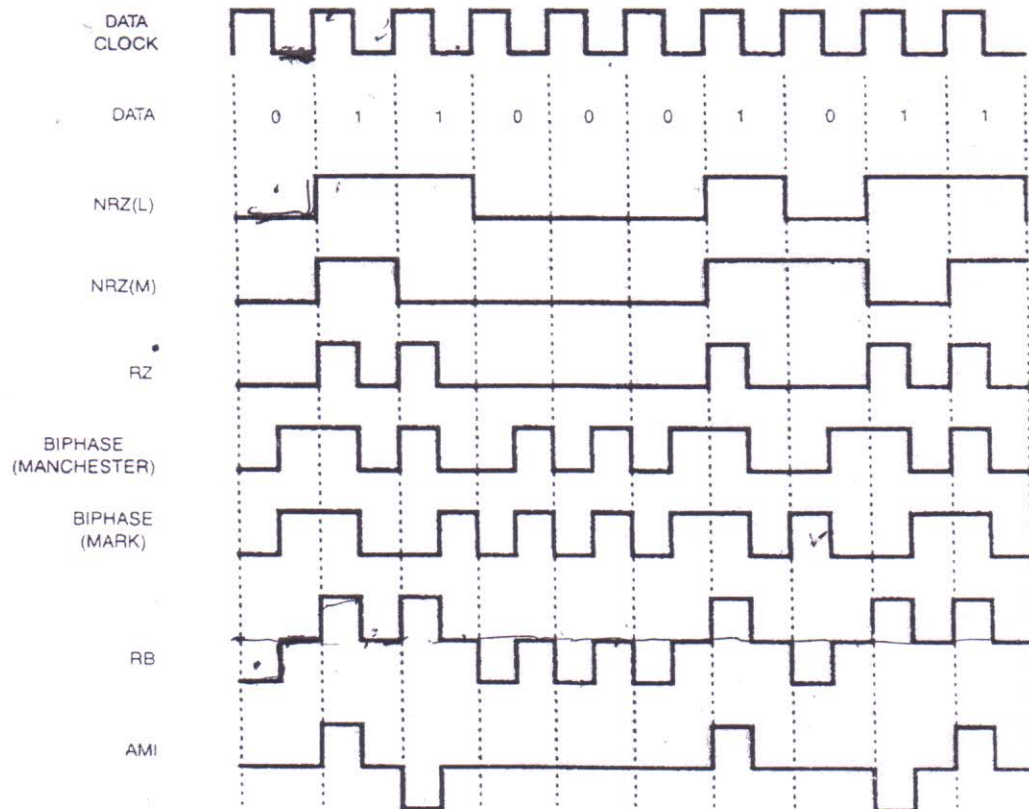

Fig. 1
- (14) Use the other trace of your oscilloscope to observe the Biphase (Manchester) waveform at t.p. 8. of ST2106. This is identical to the waveform shown in Figure 1.
The most widely used formats of data representation are given below. There are also available on **ST2106** trainer. Every data format has specific advantages & disadvantages associated with them. We will study one by one see fig 1.
Monitor this analog signal at the VOLTAGE COMPARATOR'S '+' input t.p. 9 trigger the scope on this signal together with the output of, INTEGRATOR 1 (T.P. 17) Note how the output of the transmitter' integrator follows the analog input, as was illustrated in Fig. 1.